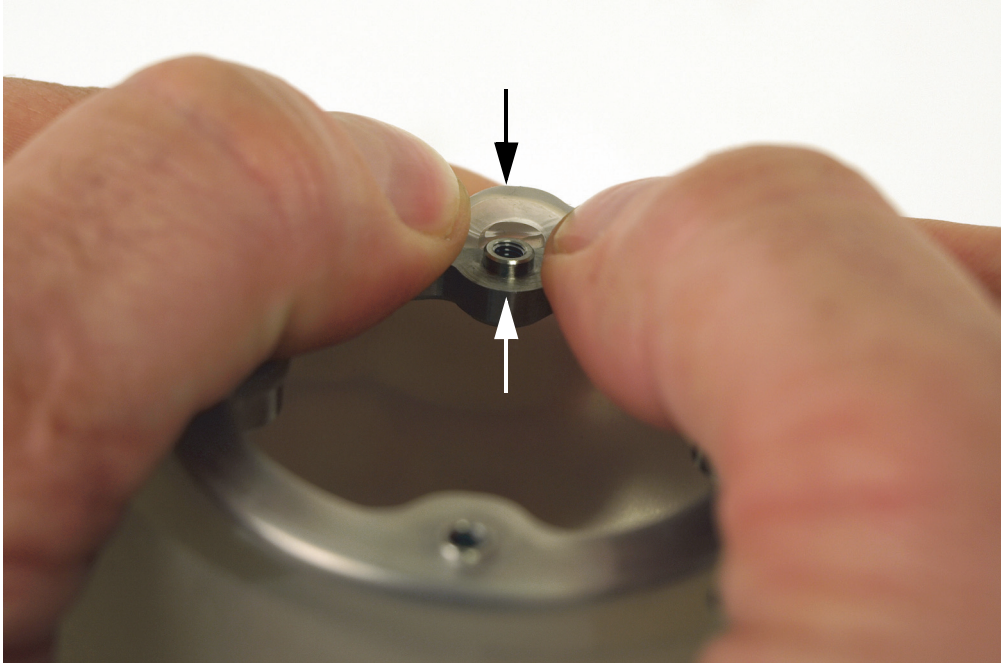

Figure 6-25 Installing a ring in its retaining groove in the tire
- d) Install the stainless steel ring in the retaining groove, carefully inserting the posts in the holes on the tire lip (Figure 6-25 on page 104).